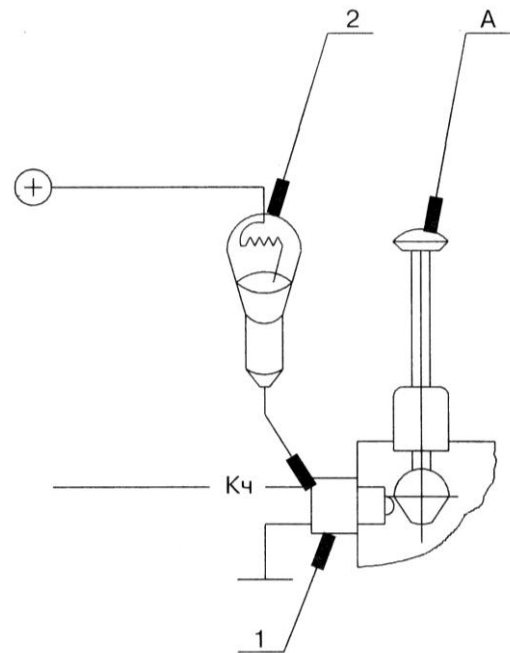

Fig. 7. Checking the operation of the starter interlock switch.
b) Check the operation of the starter interlock switch “SA11” with the gearbox reduction gear engaged (Fig. 7).
- connect one wire of the test lamp to the switch terminal with the wire K4 and stretch out another one to the “+” terminal of the regular storage battery (Fig. 7);